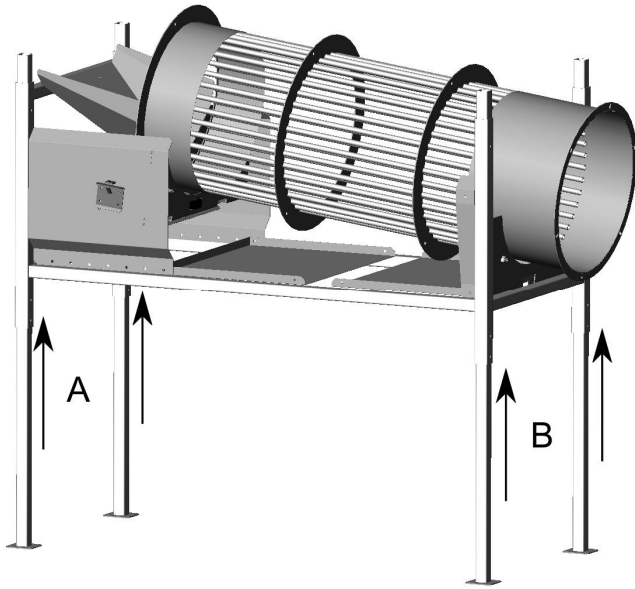

Fig. 1.
- ❑ The angle of the debris drum can be changed by altering the height difference of the legs A and B (Fig. 1).